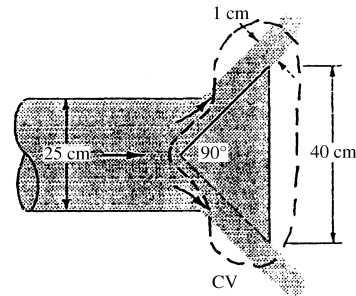

Fig. P3.84
3.84 Air at 20°C and 1 atm flows in a 25-cm-diameter duct at 15 m/s , as in Fig. P3.84. The exit is choked by a 90° cone, as shown. Estimate the force of the airflow on the cone.